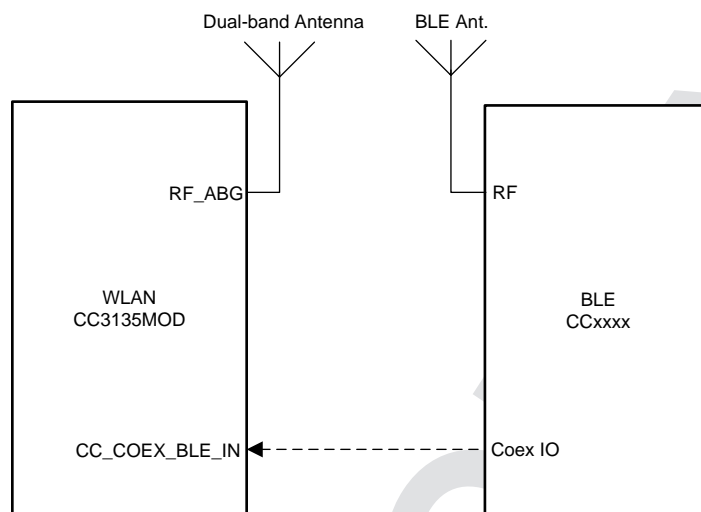

Figure 7-1. Dual-Antenna Coexistence Mode Block Diagram
- Dual-band Wi-Fi (see Figure 7-1)
Figure 7-1 shows the dual antenna implementation of a complete Bluetooth® low energy and WLAN coexistence network with the WLAN operating on either a 2.4- or a 5 GHz band. Note in this implementation no Coex switch is required and only a single GPIO from the BLE device to the CC3135 device is required.